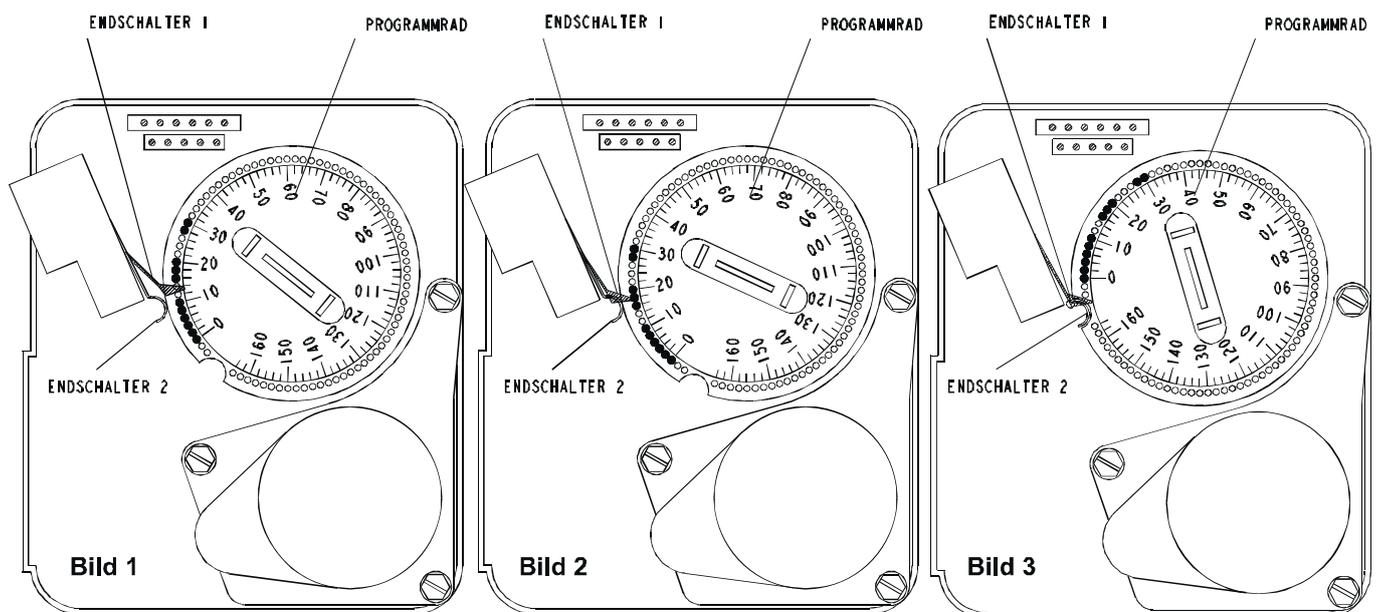

Fig. G-1: Rear of timer
- Flip the timer to the right and wait for 10 minutes until limit switch 1 is free (fig. G-1, illustration 1) and the actuator of the control piston has stopped.
- Wait until limit switch 1 is pressed again (fig. G-1, illustration 2) and the actuator of the control piston has stopped.
- The demanganisation system is ready for operation again when the limit switches 1 and 2 are free (fig. G-1, illustration 3).